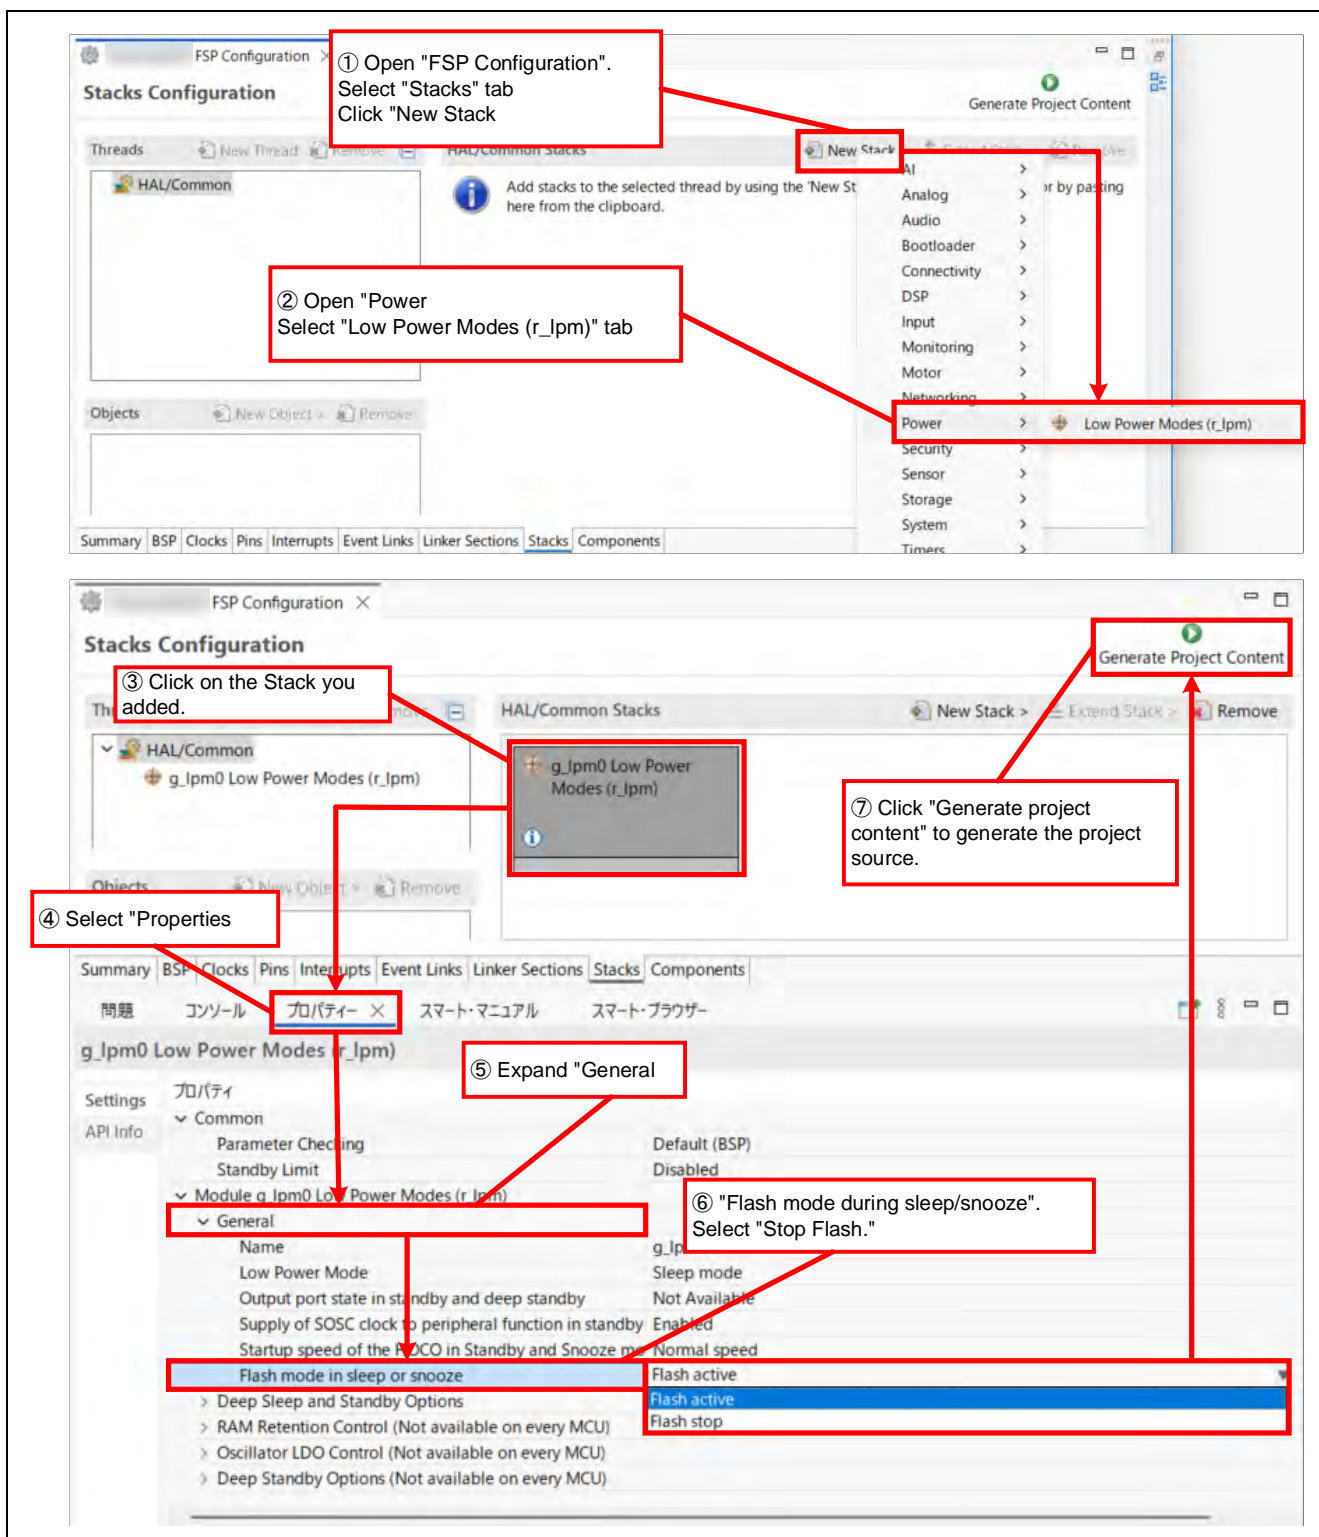

Figure 2-3 Flash operation stop setting
- ① Figure 2-3 shows how to configure the settings in FSP to stop flash operation during Sleep mode or Snooze mode. In the RA0 series, the default setting is for the flash to operate during Sleep mode or Snooze mode. Therefore, to stop flash operation, you need to follow the procedure shown in Figure 2-3.